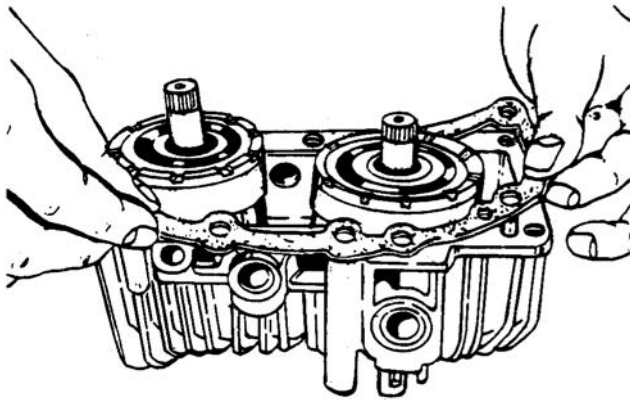

Figure 6-61. Installing Gasket
- d. Place a new gasket on housing. See Figure 6-61.